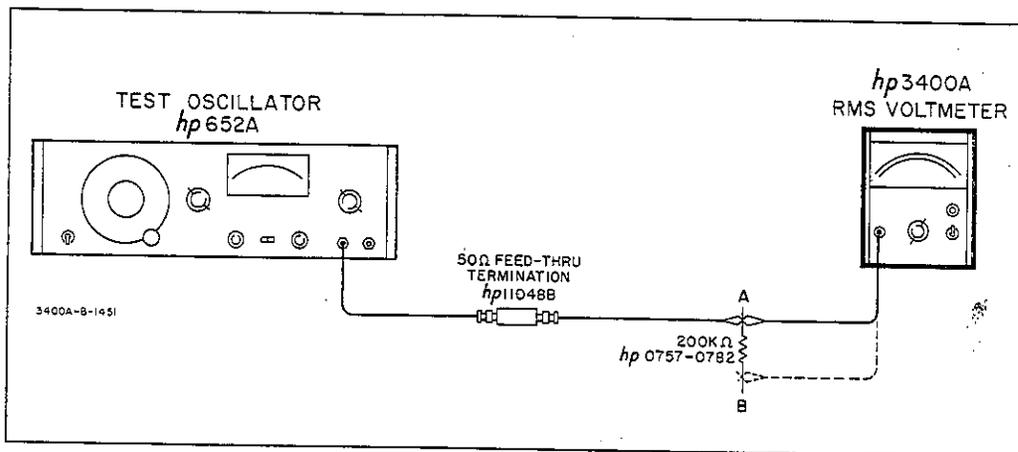

Figure 5-3. Input Impedance Test Setup
- a. Connect the Test Oscillator, 50 ohm feedthru and -hp- Model 3400A to position A in Figure 5-3.
- d. Connect Model 3400A to position B, as shown in Figure 5-3. The 3400A meter reading now should change less than or equal to .02 volts (2 minor divisions). 2 minor divisions corresponds to an input impedance of 10 megohms.
- a. Connect Test Oscillator, 50 ohm feedthru and Model 3400A to position B in Figure 5-3. Insert the resistor lead directly into the BNC connector on the 3400A as an adapter adds capacitances to the measurement.